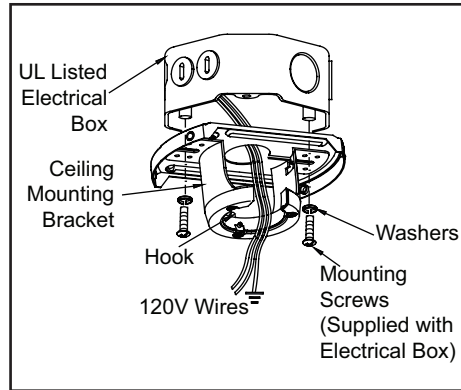

Figure 14
1. Pass the 120-volt supply wires through the center hole in the ceiling mounting bracket as shown in Figure 14.
2. Install the ceiling mounting bracket on the electrical box by using the mounting screws provided with the electrical box. Note that the flat side of the mounting bracket is toward the electrical box. (Figure 14)